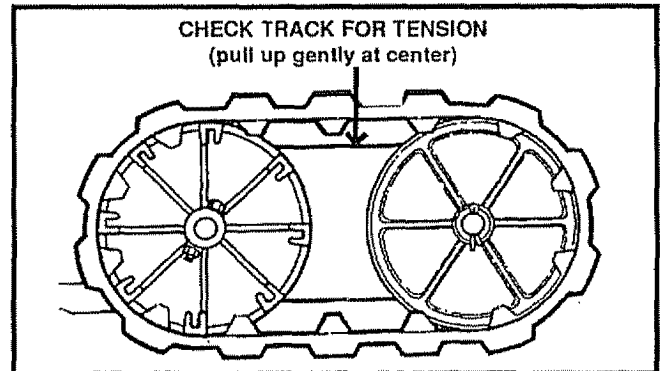

FIG. 16
- Check the tracks for tension (See Fig. 16) and adjust if necessary (See To Adjust Track paragraph on page 23). Check the track adjustment and fasteners regularly.